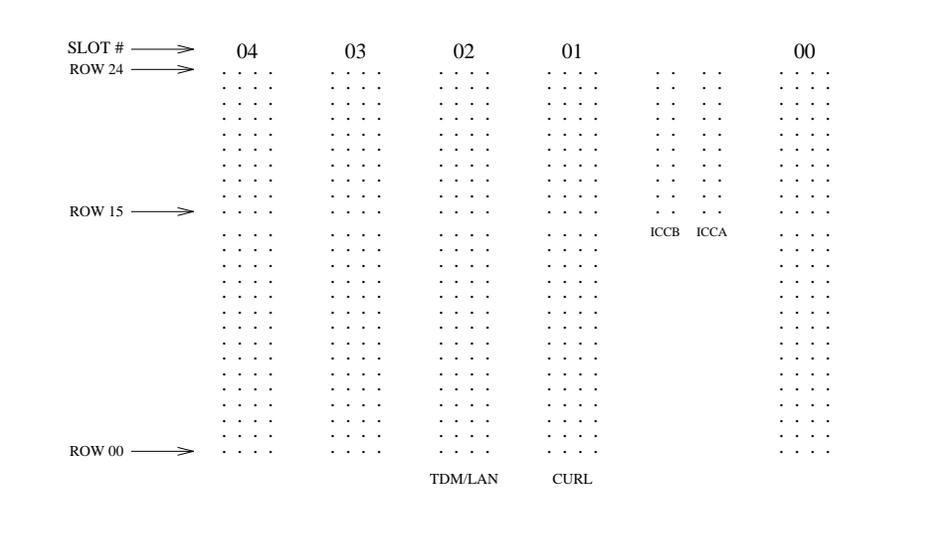
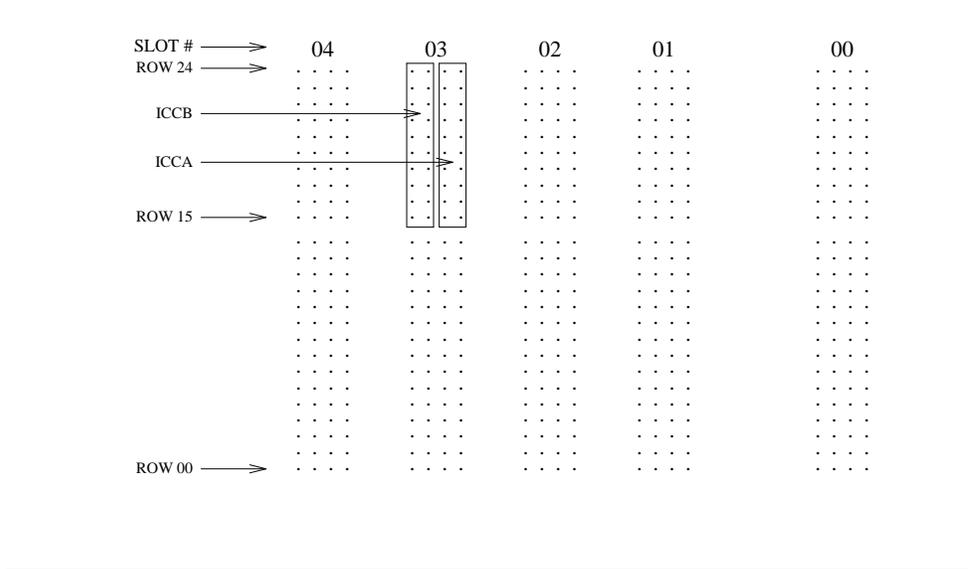

Figure 7-37. ICC Connections for Expansion Control Carrier
Figure 7-38. ICC Connections for Port Carrier
16. See CAUTION. Install the ICC cables (H600-204 G1) between carriers “A” and “B.” Connect the cables to the “ICC” pin-field block on both carriers (see Figure 7-37 and Figure 7-38 and Table 7-9). The cable is installed so that the dark red, blue, or purple stripe (depending on the supplier) is on the bottom at both ends.